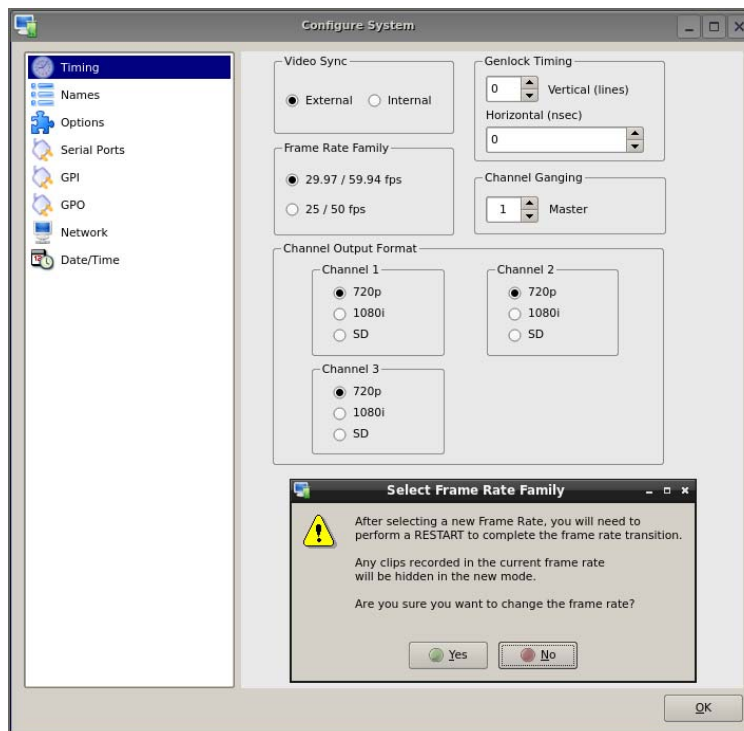

Figure 6 – Selecting a Frame Rate Family and Channel Output Format
- From the main menu bar select **EDIT >CONFIGURE**. Select the **TIMING** option. The screen of **Figure 6** appears.